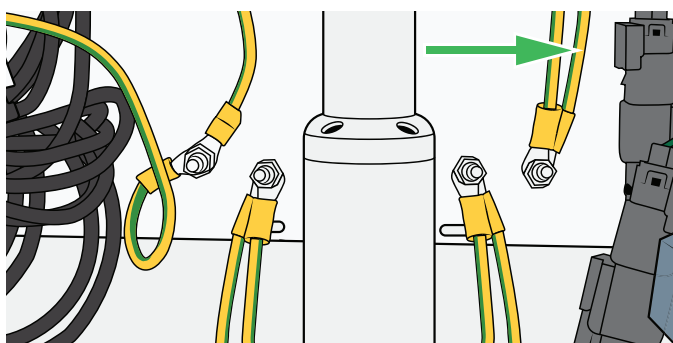

Figure 51
2. Disconnect the transducer earth cable. See Figure 51.